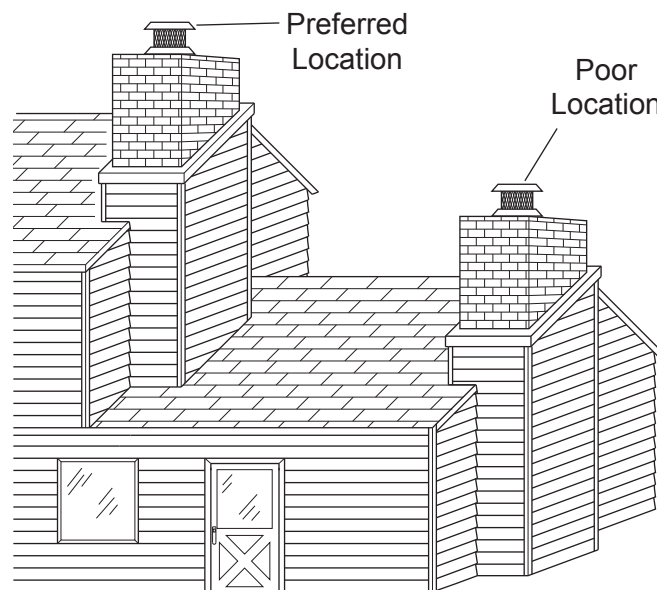

Figure 4 - Preferred Chimney Location
- Do not install where the chimney cap will be near abrupt changes in the roof shape, nearby wall or embankments, under or near trees or above the roof of a single story wing of a two story building. See *Figure 4*. Any of these conditions may cause turbulence or pressure condition which may create poor chimney draft and smoke spillage from the fireplace opening into the home.